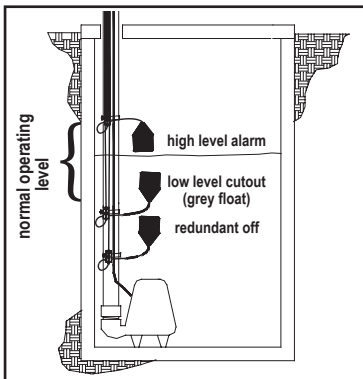
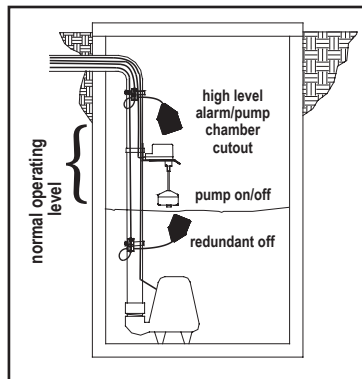

FIGURE 1 - Pump chamber three float system
FIGURE 2 - Sand filter redundant off system
6. In the pump chamber, mount the redundant off float slightly below the low level cutout float but above the pump as shown in **Figure 1**. In the sand filter, mount the redundant off float slightly below the pump ON/OFF float, but above the pump as shown in **Figure 2**.
7. Mounting sand filter pump ON/OFF switch as shown in **Figure 2 & 4**. Determine pumping range. SJE VerticalMaster™ or sand filter pump on/off switch has an adjustable range .75" to 6.5". Adjust for that range by moving the float stop up or down the lift rod.